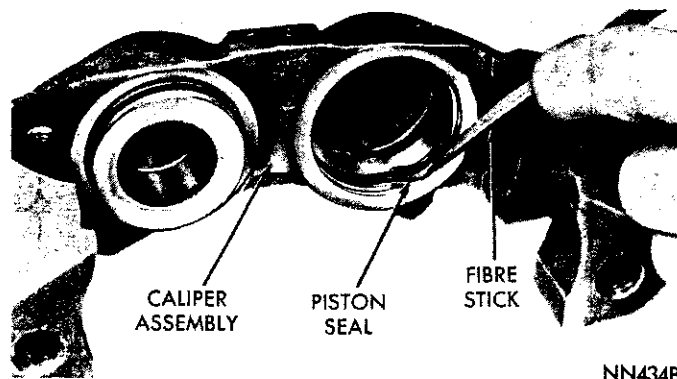

Fig. 12—Removing Piston Seals from Caliper
(7) Using a small pointed wooden or plastic tool, remove piston seals from groove in cylinder bore (Fig. 12). Discard old seals. (Use care so as not to scratch bore or the seal groove.)